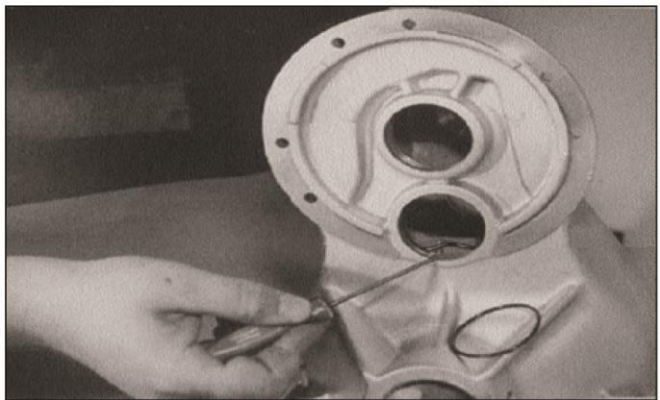

Figure 7-19
- 19 Remove O-rings from outer input bearing bore and both intermediate bores. See Figure 7-19.
5. Install outer snap ring (16) at input shaft bore. See Figure 7-19.